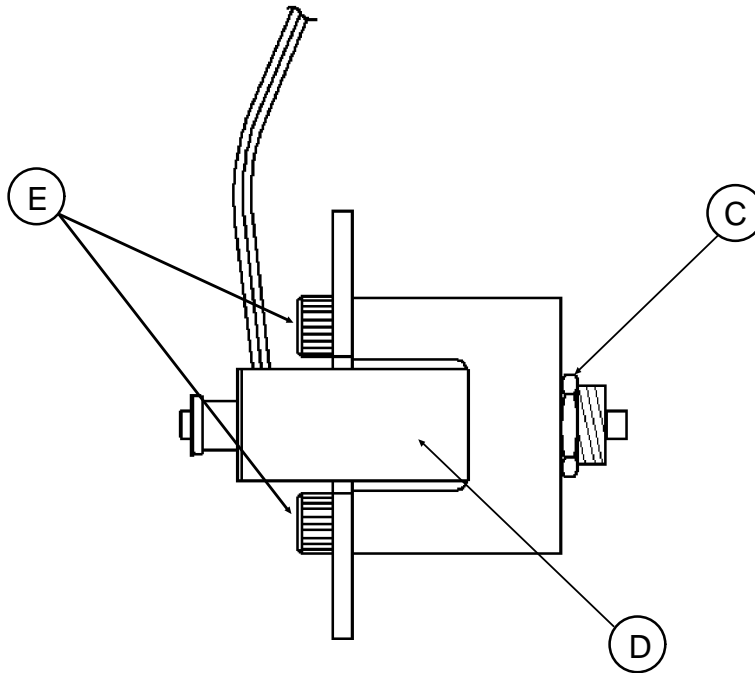

Figure 5
6. Remove the Lock Nut (Figure 5-C) holding the Solenoid (Figure 5-D) in the Bracket Assembly.
7. Remove the two Retaining Screws (Figure 5-E) holding the Bracket Assembly together, and separate the two pieces of the Assembly.